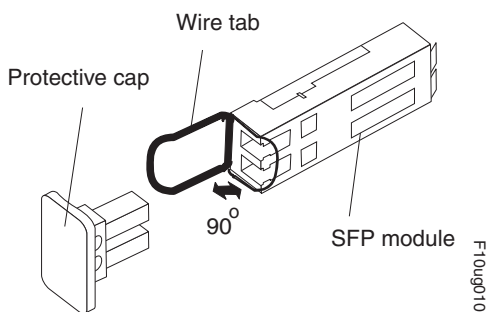

Figure 3. Unlocking the SFP module latch - wire variety
- For SFP modules that contain wire tabs, unlock the SFP module latch by pulling the wire latch outward 90°, as shown in Figure 3.